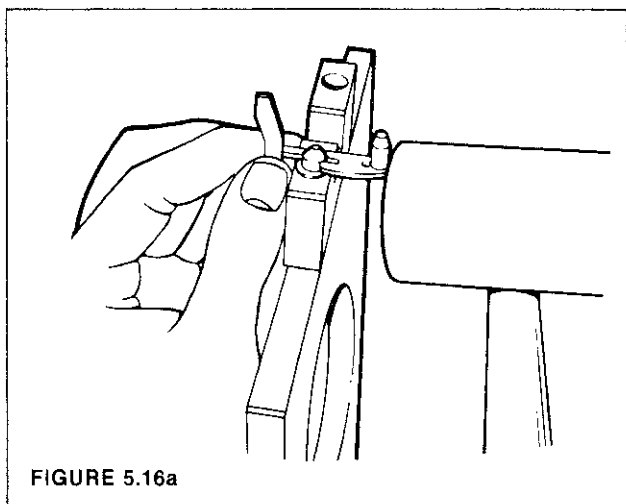

FIGURE 5.16a
STEP 16 Assemble the metering valve arm, shim and spring to the metering valve (Figure 5.16a). Exercise care not to distort any of the components.